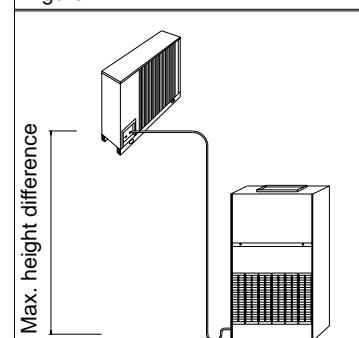

Figure 6
- If the condensing unit is higher than the evaporating unit, only install the socket (see Fig. 6).